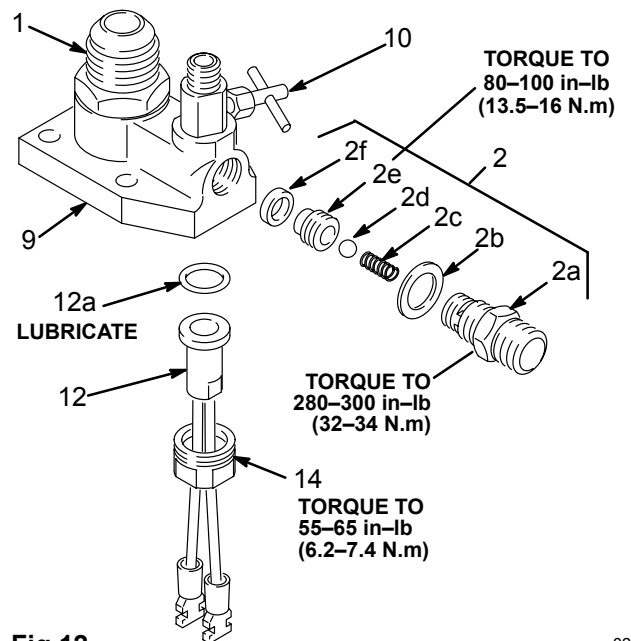

Fig 12
3. Unscrew the retainer (14) and remove the pressure switch (12) and o-ring (12a). See Fig 12.
4. Grease and install a new o-ring (12a) in the pump housing (9). See Fig 12.
### Outlet Valve (See Fig 12.)